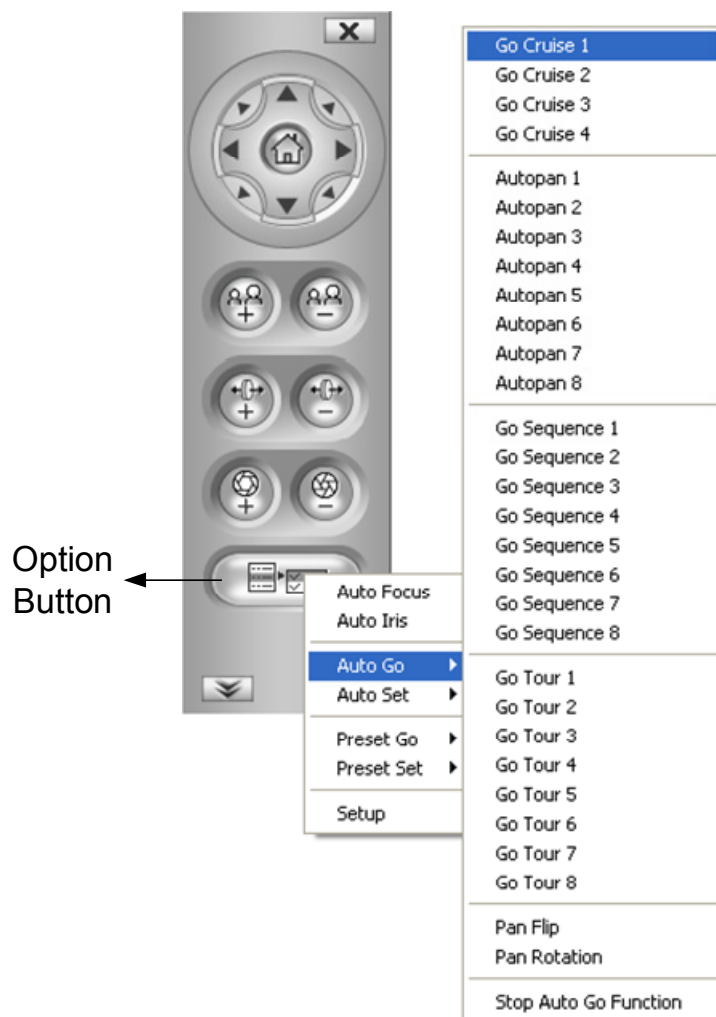

Figure 4-1
From the PTZ control panel (Figure 4-1), click **Option** and select **Setup**. This dialog box appears.
2. To save the preset position, click **Option** (Figure 4-1) on the PTZ Control Panel, click **Preset Set**, and select the desired preset number.
To move the dome view to a previously defined preset position, click **Option** (Figure 4-1) on the PTZ Control Panel, click **Preset Go**, and select a **Preset** number which has been set up.
1. Click **Option** (Figure 4-1) on the PTZ Control Panel, click **Auto Set** and select **Set Cruise 1**.
3. When you are finished with setting up a Cruise 1 route, click **Option** (Figure 4-1), click **Auto** and select **Set Cruise Stop**.
To start the GV-IP Speed Dome on a defined Cruise route, click **Option** (Figure 4-1) on the PTZ Control Panel, click **Auto Go** and select a **Go Cruise** number which has been previously set.
- B. Click **Option** (Figure 4-1) on the PTZ Control Panel, click **Auto Set** and select **Set Auto Pan 1 Start Position**.
- B. Click **Option** (Figure 4-1) on the PTZ Control Panel, click **Auto Set** and select **Set Auto Pan 1 Stop Position**.
To start the GV-IP Speed Dome on an Auto Pan mode, click **Option** (Figure 4-1) on the PTZ Control Panel, click **Auto** and select an **Auto Pan** number which has been previously set. An enabled Auto Pan will repeat until it is stopped by clicking a Pan/Tilt Control key, home key, zoom button or focus button on the PTZ Control Panel.
To start the dome view on a Sequence route, click **Option** (Figure 4-1) on the PTZ Control Panel, click **Auto Go** and select a **Go Sequence** number which has been previously set. The dome view will continue moving once a Sequence is started. To stop the movements, click a Pan/Tilt Control key, home key, zoom button or focus button on the PTZ Control Panel.
To start the GV-IP Speed Dome on a Tour route, click **Option** (Figure 4-1) on the PTZ Control Panel, click **Auto Go** and select a **Go Tour** number which has been previously set. An enabled Tour will repeat until it is stopped by clicking a Pan/Tilt Control key, home key, zoom button or focus button on the PTZ Control Panel.